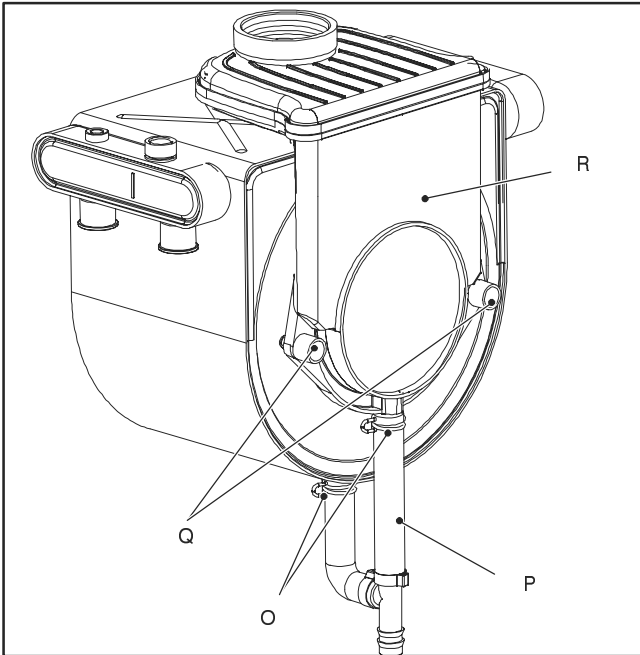

Fig. 18.7
- 2 Using pliers, remove the spring *O* moving it downwards and disconnect the rubber pipe *P* (Fig. 18.7).